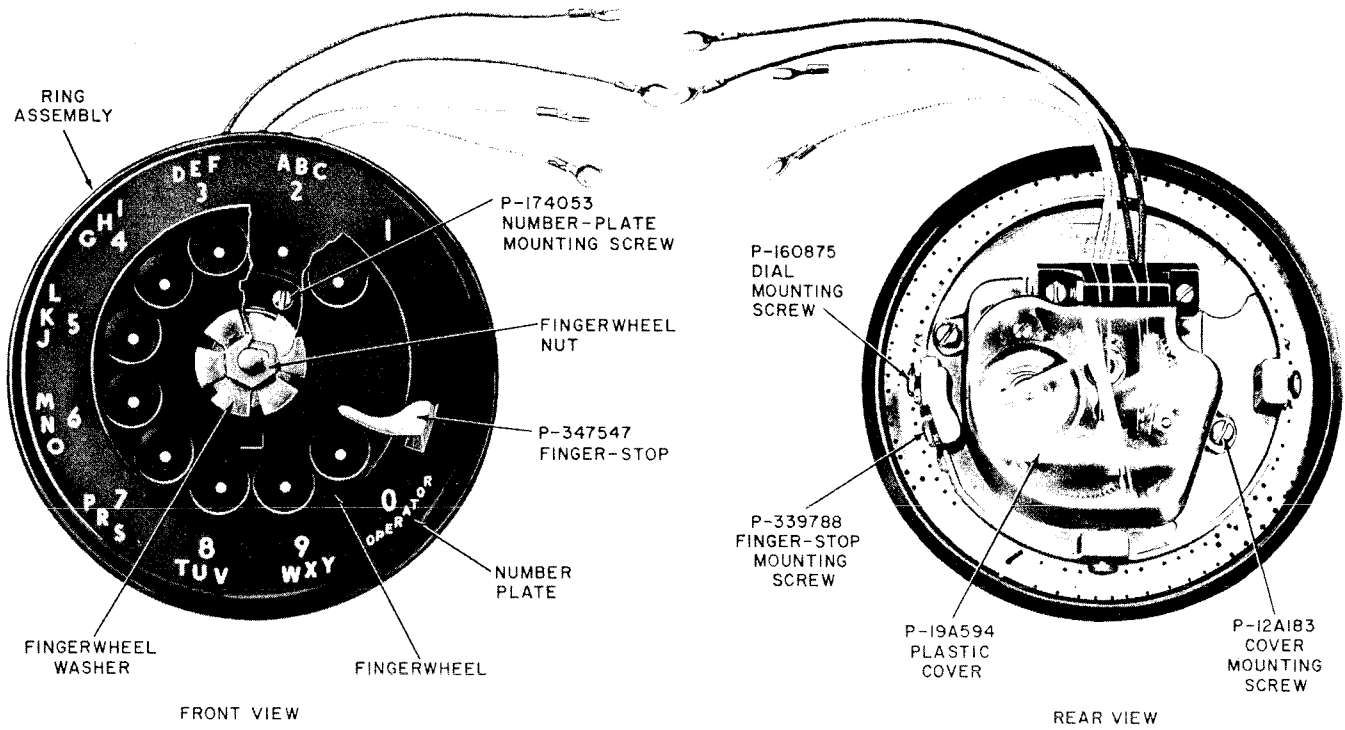

Fig. 6 — 7-Type Dial
**2.04** See Tables E and F and Fig. 6 for usage and assembly of parts.